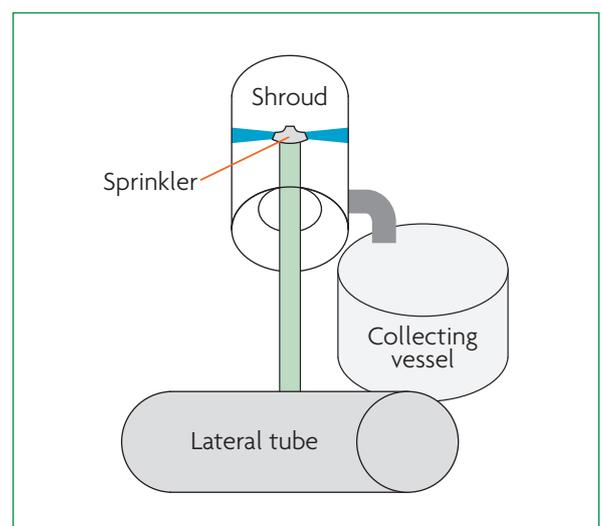

Figure 1.1. Shroud for sprayer discharge collection
1. Place a shroud over the sprayer or sprinkler in-situ and direct the captured flow to a second vessel for collection (Figure 1.1)